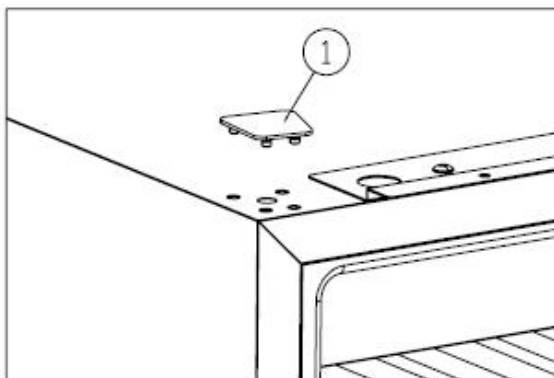

Figure 3
- ✧ Remove the germinal lid①.[Figure 3]